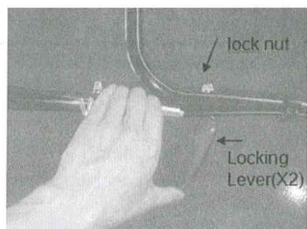

Fig.2F
3. Push the locking lever closed to lock the handlebars in the operating position. (Fig.2F)